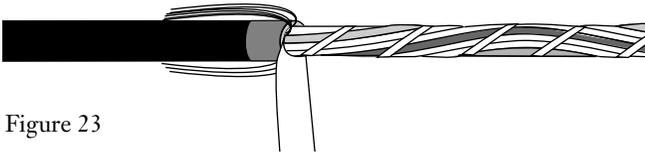

Figure 23
7.4 Separate the waterblocking tape from the cable core (Figure 23). Use scissors to cut the waterblocking tape flush with the end of the cable sheath.
7.7 Separate the inner layer of waterblocking tape from the cable core (see Figure 23). Use scissors to cut the water-blocking tape flush with the end of the cable sheath.